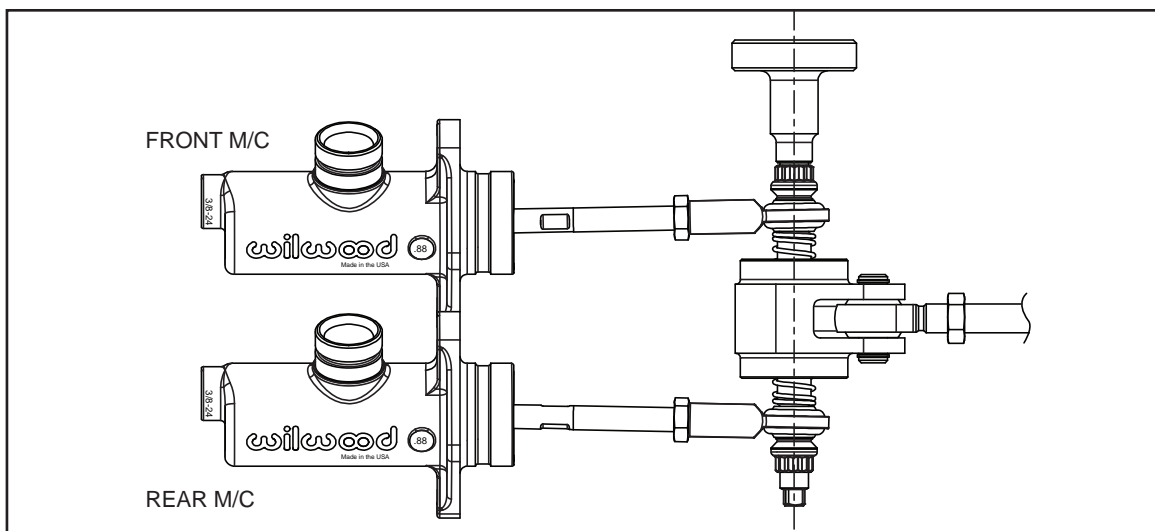

Figure 2. Initial Balance Bar Lever Adjustment
- For the initial bleeding, the pushrod lengths can be set to an equal length. Additional pushrod length adjustments to compensate for differences in master cylinder stroke can be done after the system has been bled. See Figure 2.
- In those few instances where a 50/50 bias system with the same caliper piston sizes at all four wheels and equal size master cylinders front and rear are employed, set the pushrod lengths equal as shown in Figure 2.